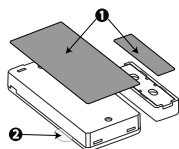

Figure 2: Quick installation 1: Double-sided adhesive tape 2: Enrollment / battery tab
- Peel the release liners off the two strips of double-sided adhesive tape and attach the tape to the back of the device and the magnet. See Figure 2.